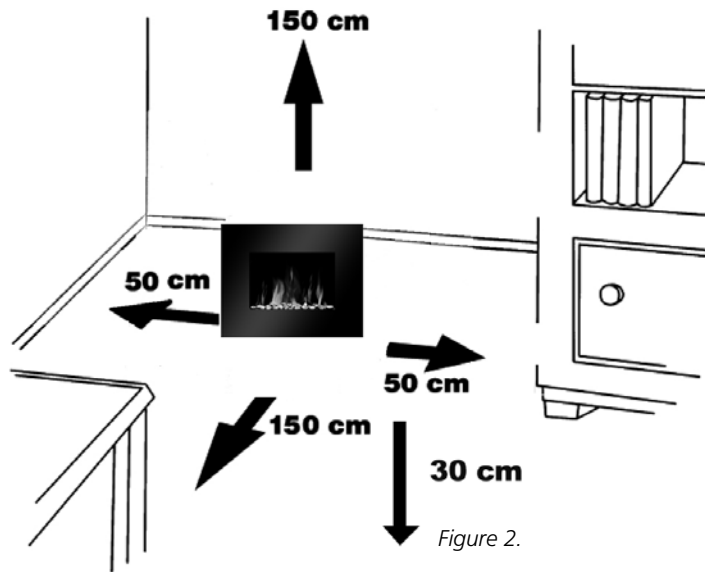

Figure 2.
4. Make sure there is enough free space around the heater. See figure 2.
- The minimum distances must be observed (see fig 2).